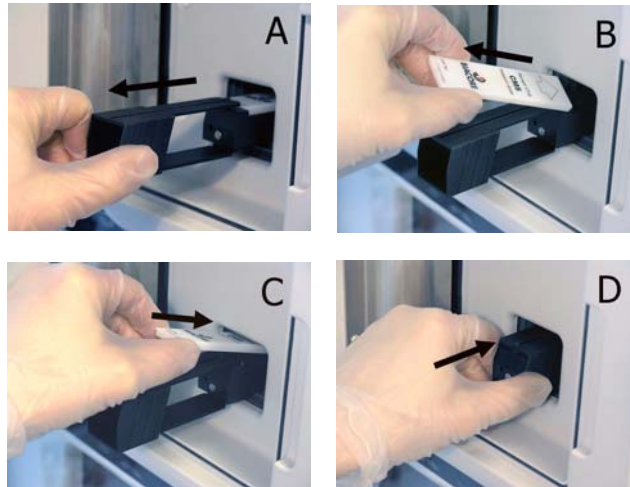

Figure 3-5. Removing and inserting a sensor chip, step A-D.
- 3 Pull out the chip slide, see Figure 3-5 A.
- 4 If required, remove the old chip, see Figure 3-5 B.
- 5 Insert the chip with the text on the upper side, see Figure 3-5 C.
- 6 Push the chip slide all the way in, see Figure 3-5 D.